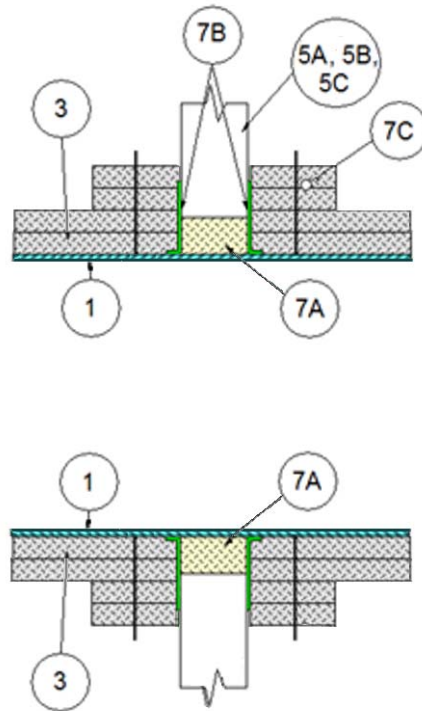
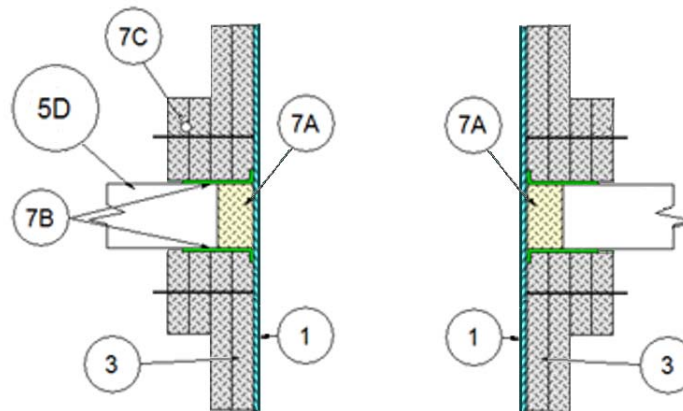

Figure 3. Penetration Assembly, Duct Through Wall
Figure 4. Penetration Assembly, Duct Through Floor/Ceiling
- B. STEEL FLASHING:** Use min. 18 GA steel flashing bent at a 90-degree angle with a 1-in. and a 4-1/2 in. leg. Butt the 1 in. leg of the flashing to the ventilation air duct (Item 1) with min. 1/4 in. bead of 100% silicone sealant between the flashing and the ventilation air duct. Secure the 1 in. leg of the flashing to the ventilation air duct (Item 1) with #10, 1 in., self-tapping screws. Locate screws 1 in. from either end of the flashing and space remaining fasteners max. 8 in. oc. Butt the 4-1/2 in. leg of the flashing to supporting construction with two, min. 1/4 in. beads of 100% silicone sealant between the flashing and the supporting construction. Attach the 4-1/2 in. leg to the supporting construction using 1/4 in. by 1-1/4 in. long, Tapcon concrete anchors for concrete floor/ceiling, or #10 self-tapping screws for steel stud framed walls, spaced 1 in. from the ends and max. 8 in. oc in between. Use steel flashing on both sides for wall assemblies (Figure 3), and on the top and bottom sides for floor/ceiling assemblies (Figure 4).